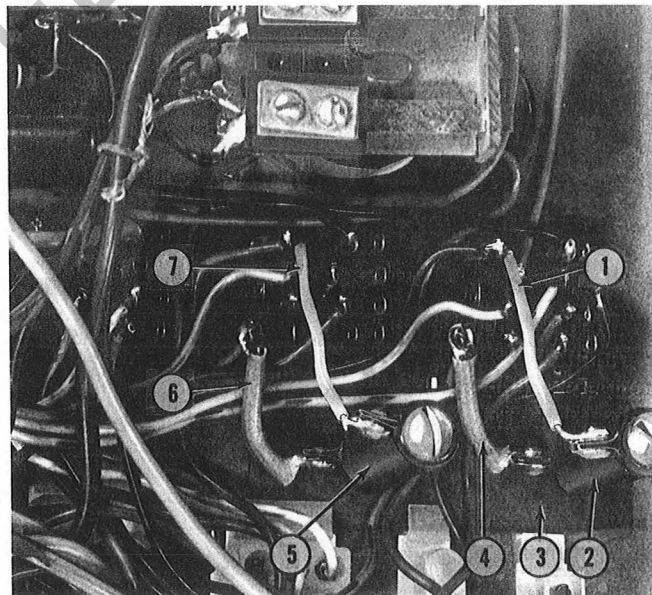

FIGURE 2 .
5. Place Insulator (Item 3, Figure 2), Part No. 137300, in Chassis and Socket Assembly as shown in Figure 2 .
7. Install Resistors with Screws through Insulator (Item 3, Figure 2) and holes in Chassis and Socket Assembly as shown in Figure 2 .
10. Connect one 3" piece of wire (Item 1, Figure 2) between top lug of Resistor (Item 2, Figure 2) and Contacts 9 and 13 of SIDE 1 RLY Socket as shown in Figure 2 .
11. Connect one 3" piece of wire (Item 4, Figure 2) between bottom lug of Resistor (Item 2, Figure 2) and Contact 14 of SIDE 1 RLY Socket as shown in Figure 2 .
12. Connect one 3" piece of wire (Item 7, Figure 2) between top lug of Resistor (Item 5, Figure 2) and Contacts 9 and 13 of SIDE 2 RLY as shown in Figure 2 .
13. Connect remaining 3" piece of wire (Item 6, Figure 2) between bottom lug of Resistor (Item 5, Figure 2) and Contact 14 of SIDE 2 RLY as shown in Figure 2 .